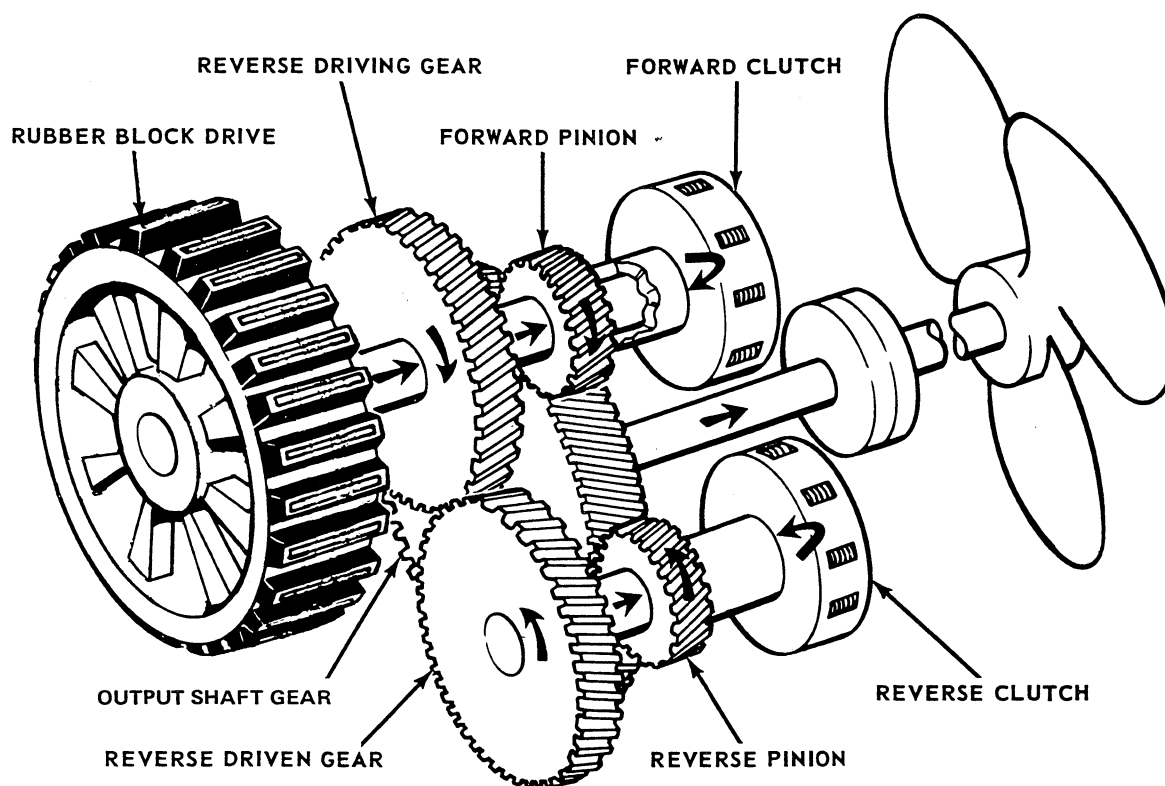

Figure 5. MG-514 Marine Gear Power Flow – Schematic View.
B. Direction of Drive (Fig. 5). The forward clutch shaft and the reverse driving gear always rotate in engine direction. The reverse clutch shaft and the reverse driven gear always rotate in anti-engine direction. When the forward clutch is engaged, the output shaft gear will rotate in an anti-engine direction due to the gear meshing with the forward pinion. When the reverse clutch is engaged, the output shaft gear will rotate in anti-engine direction due to the gear meshing with the reverse pinion.